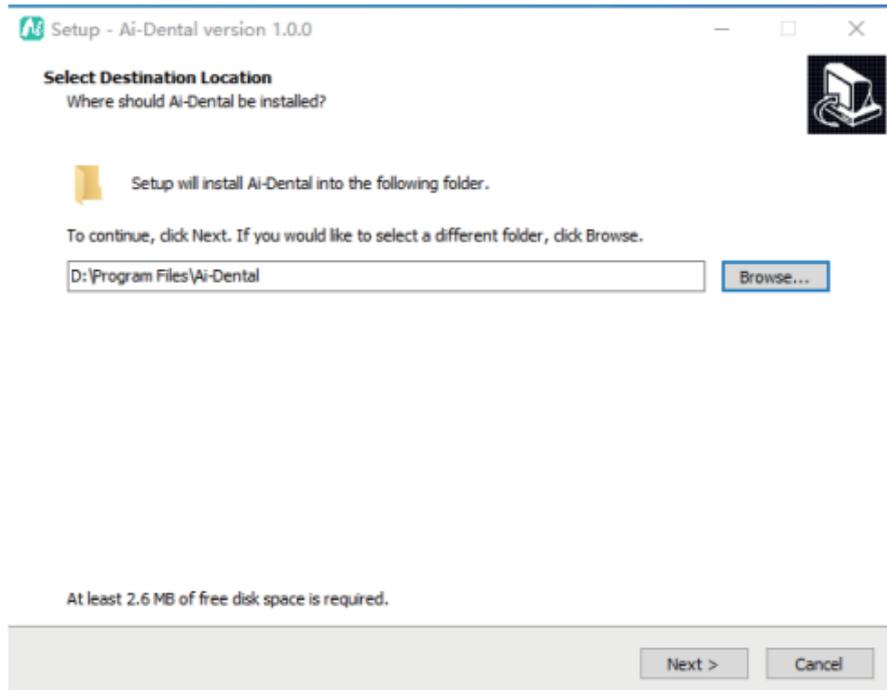

Figure 3
b) After the installation program starts, click the "Browse" button to select the installation path. After the path is selected, click the "Next" button, as shown in Figure 3: